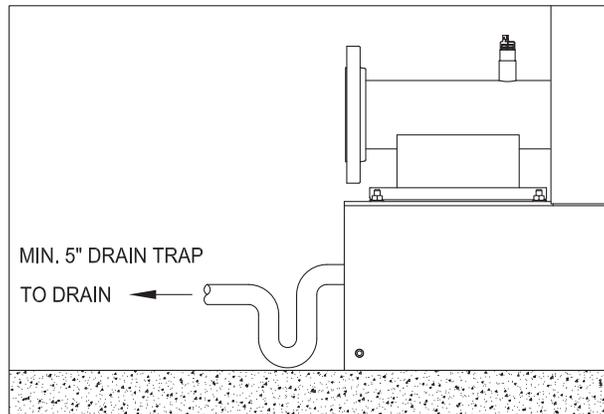

Figure 15. Condensate Piped Direct to Drain
(1) Condensate direct to drain - The condensate is piped directly to a drain through the piping and water trap supplied during installation (see **Figure 15**).